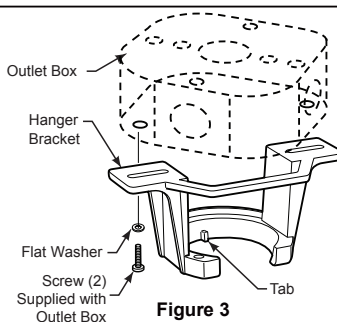

Figure 3
1. Securely attach the hanger bracket to the outlet box (not included) using the outlet box screws and washers supplied with the outlet box. (Figure 3)
- ☐ 2. Slide the receiver into the hanger bracket before wiring as shown in figure 3.